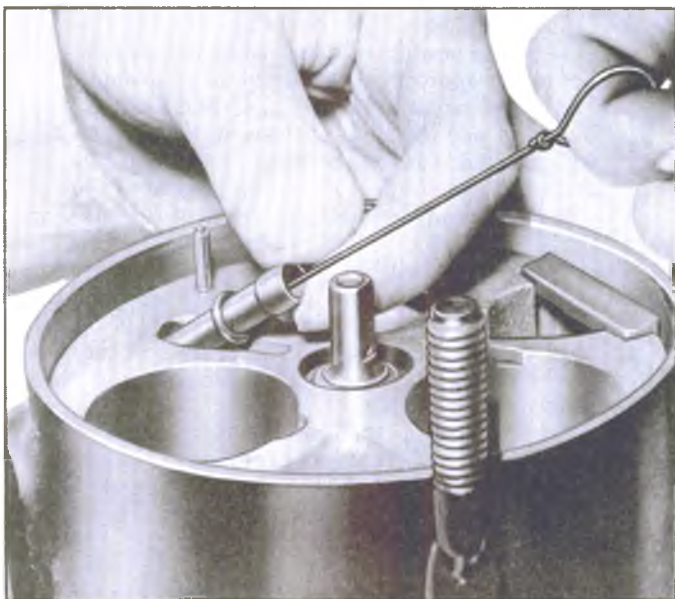

Fig. 16—Removing Oil Inlet Tube and "O" Ring
2. Remove the oil inlet tube and "O" ring with Tool J-5139 as shown in Figure 16.